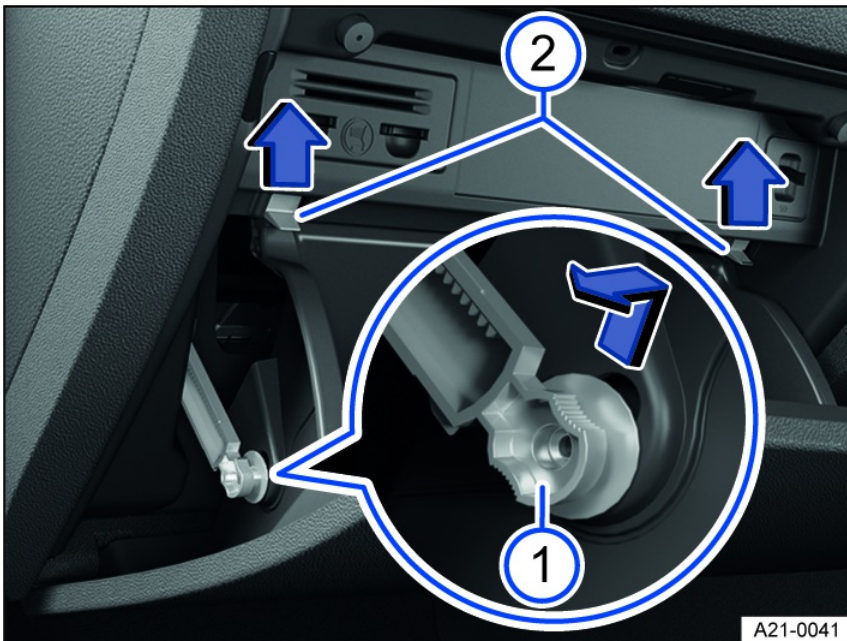

Fig. 156 Right-hand drive vehicles, on the passenger's side: Fuse box cover in the instrument panel.
1. Open the glove box, and empty it if necessary *fig. 156*.
2. Push the damper element up and into the opening in the bracket, before pulling it out sideways *fig. 156* ①.
3. Press the stop pin upward in the direction of the arrow *fig. 156* ②.
storage compartment carefully forwards past the resistance of the stop pin *fig. 156* ②.